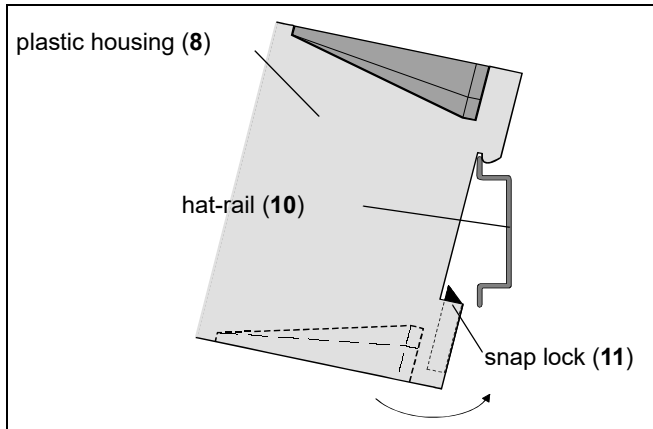

Fig. 5-1: Hat-rail mounting
2. First, set the device's mounting edge onto the hat-rail (10), and press it onto the hat-rail (10), until the snap lock (11) engages (s. fig. 5-1).